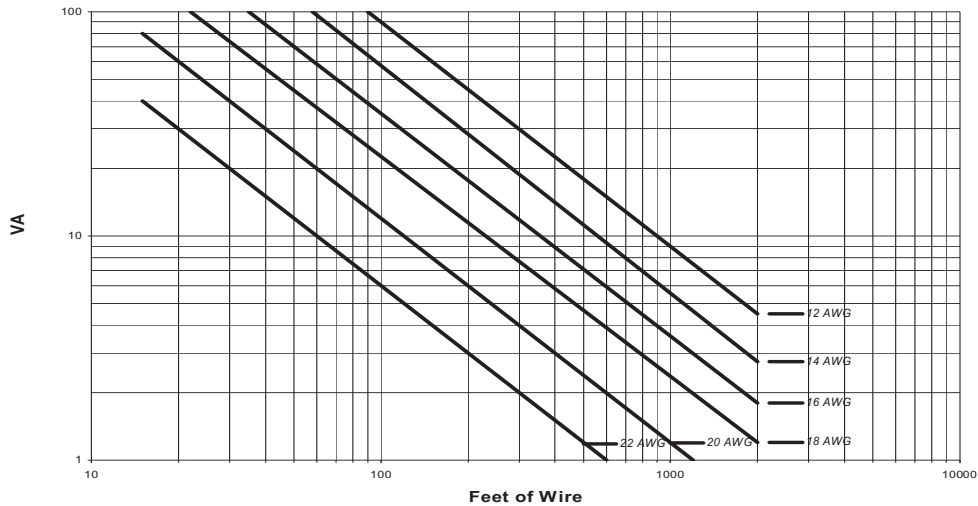

Fig. 10 Determining the appropriate wire size
2. Hold the controller along the wall and mark drilling locations through the screw red clip slots, as shown in figure 10.